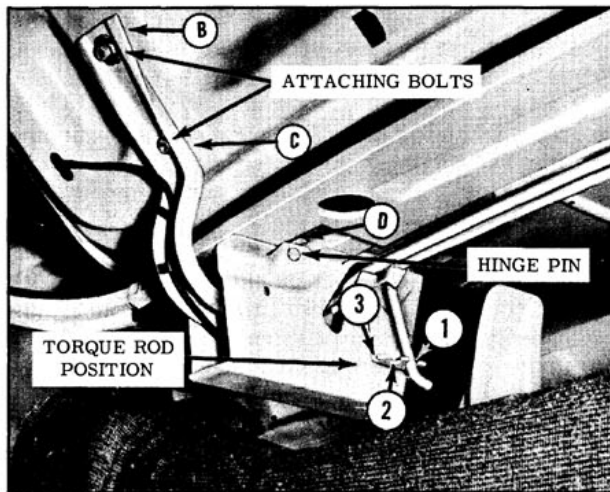

Fig. 16-111 Rear Compartment Hinge and Torque Rod
4. With aid of helper, remove lid attaching bolts (Fig. 16-111) and remove rear compartment lid.
- a. To raise front edge of lid at hinge area, place shim between lid inner panel and forward portion of one or both hinge straps at "C". (Fig. 16-111)
- b. To lower front edge of lid at hinge area, place shim between lid inner panel and rearward portion of one or both hinge straps at "B". (Fig. 16-111)
4. With a suitable tool, disengage torque rod from notched retainer on inboard face of opposite hinge box. (Fig. 16-111)
6. Bend up hinge pin retaining tab on inboard face of hinge box "D" (Fig. 16-111). Remove hinge pin and then remove hinge from box.
The amount of effort required to open and close the rear compartment lid is determined by the position of the torque rod in the notches on the inboard face of the hinge boxes. If the torque rod is located in the lowest most forward notch (position 1), the amount of effort required to open the lid is the greatest and the amount of effort required to close the lid is the least. If the torque rod is located in the top or most rearward notch (position 3), the amount of effort to open the lid is the least and the amount of effort to close the lid is the greatest. (Fig. 16-111) A 24" length of 1/2" pipe can be used to adjust torque rods.